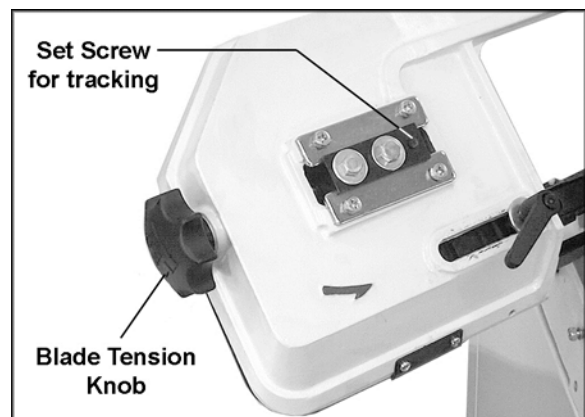
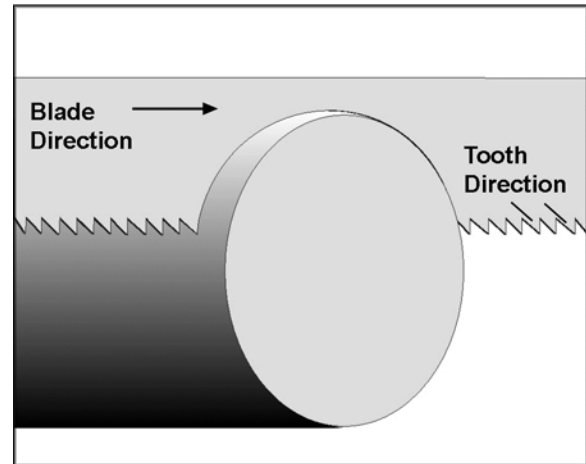

Figure 15
Figure 20
Use the knob (Figure 15) to tension the blade. Clockwise tightens the blade, counterclockwise loosens it.
1. Turn the socket set screw (Figure 15) as needed to shift the angle of the idler wheel. **NOTE:** This adjustment is sensitive; do it gradually and in small increments allowing the wheel to respond to the changes.
properly so that the teeth will point downward and into the workpiece (Figure 20). An arrow on the the body of the bow indicates blade direction (shown in Figure 15).